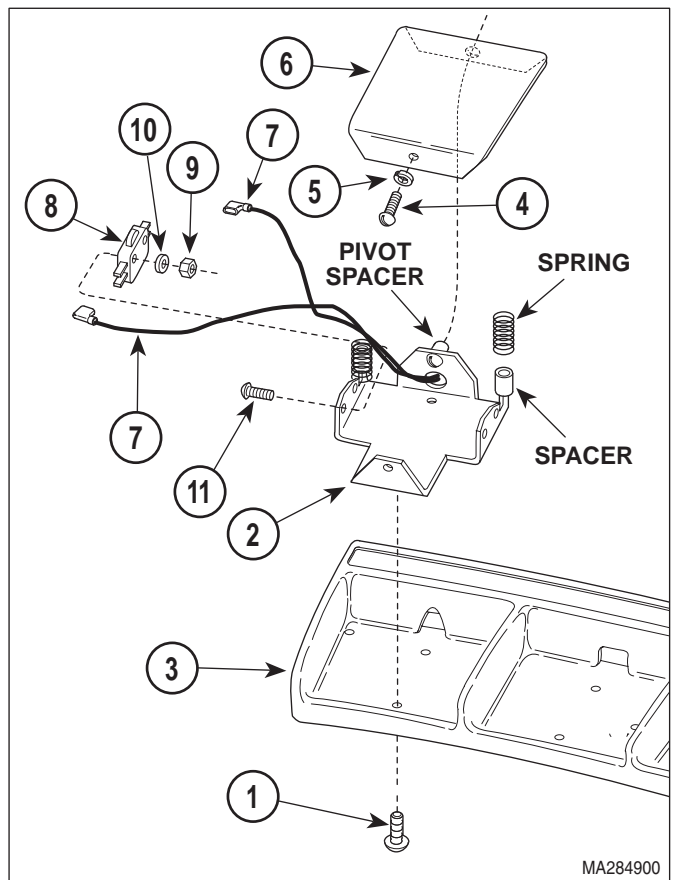

Figure 4-30. Foot Pedal Foot Switch Removal / Installation
- (1) Remove two screws (1, Figure 4-30) and partially separate foot switch bracket (2) from foot control casting (3).
- (2) Remove screw (4), spacer (5), and pedal (6) from foot switch bracket (2).
- (3) Tag and disconnect two wires (7) from terminals of foot switch (8).
- (4) Remove two nuts (9), lockwashers (10), screws (11), and foot switch (8) from foot switch bracket (2).